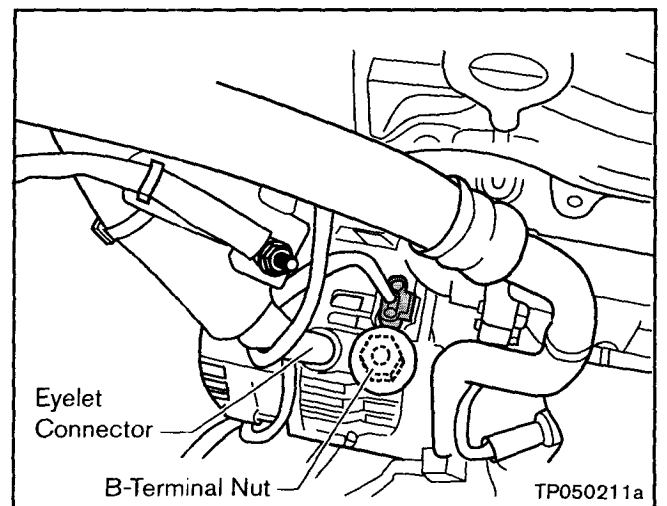

Figure 2
4. Disconnect the B-Terminal Nut and "Eyelet" connector from the Alternator (see Figure 2).